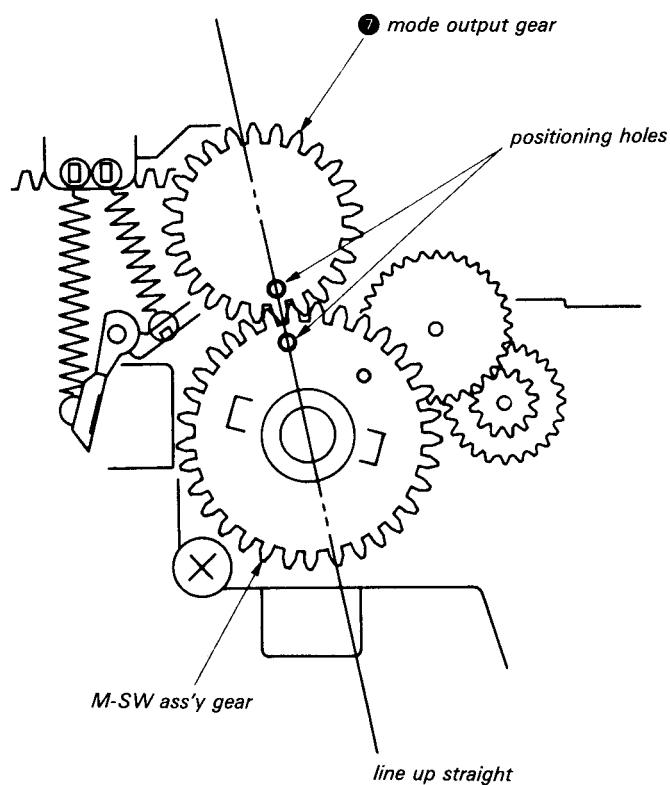

Fig. 7-39.
- 8) Mount the mode output gear ⑦ so that the positioning holes are lined up. (See Fig. 7-39.)
- 9) Mount stopper washer ⑥.
- 11) Mount B release arm ⑤ and tension spring ④.
- 13) Mount the LD-1 board ⑬.
- 14) Mount drive gear B assembly ② and stopper washer ①.